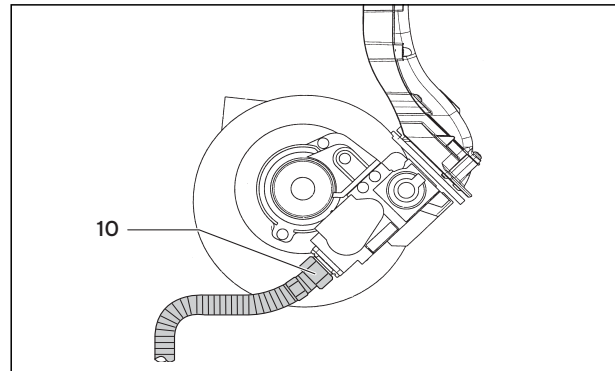

Fig. 7.2 Gas union connection
- Undo the fastening screw of the air intake pipe (5) and pull the air intake pipe forward (3); remove the air intake pipe from the air intake socket.
- Pull the two plugs of the ignition and earthing connection off the ignition electrode (6).
- Undo the gas pipe union (10) on the underside of the electronic gas valve (fig. 7.2).
- Pull the cables (9) off the fan motor and the cable (8) off the electronic gas valve.
- Undo the five nuts (2).
Check the gas connection (10) for leaks with leak spray (fig. 7.2).